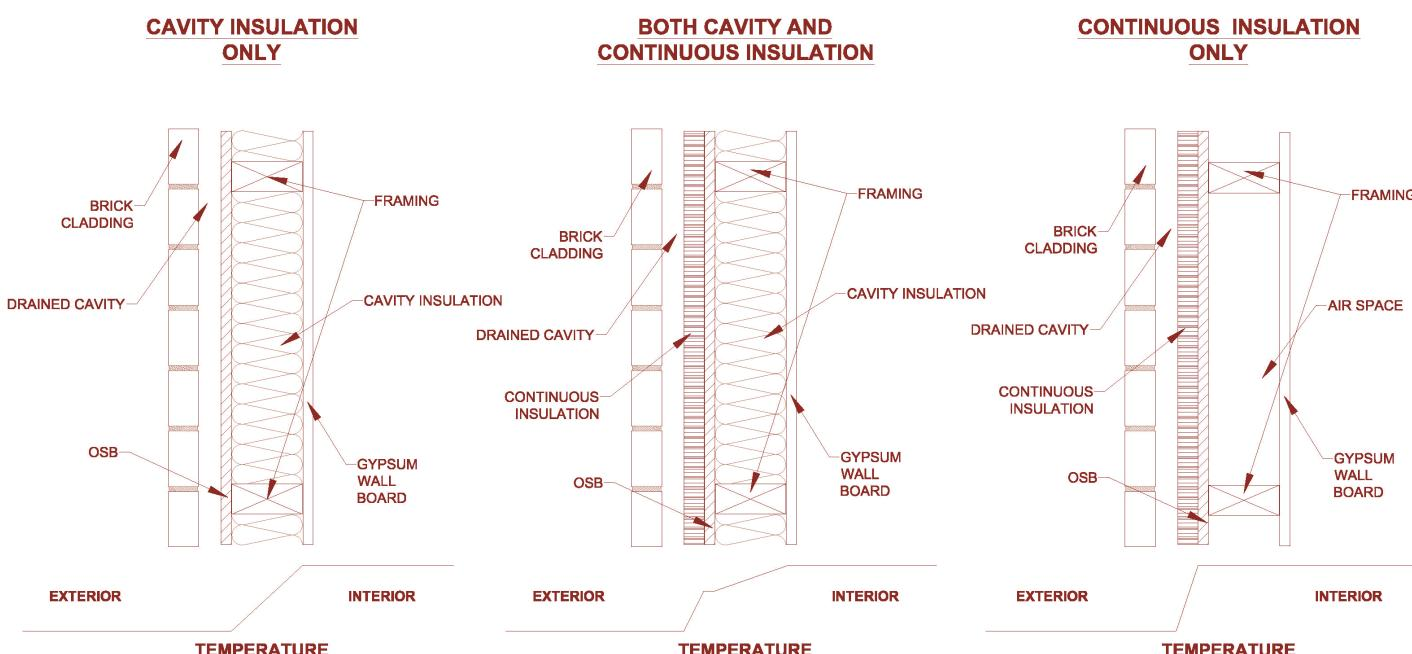

Figure 3 – Temperature gradients for three walls.
The first thing that might look different about this wall is the lack of cavity insulation. Traditionally, the thermal insulation for a wall is installed in the cavities between framing members. But that approach allows heat to flow through the “thermal bridge” caused by the framing members, and leaves those framing members exposed to exterior temperature changes, sometimes referred to as thermal cycling. It is a much better idea to use a layer of continuous insulation (CI) on the exterior side of the studs, reducing thermal bridging and keeping the structure close to the same temperature as the interior all year long. It is common to see both CI and cavity insulation used on the same assembly. Adding CI to cavity insulation (Figure 3) can increase the temperature within the wall, leading to a lessened risk of condensation. When enough CI is used independent of any other insulation, the materials on the interior of the CI can be maintained at the same temperature as the interior environment.